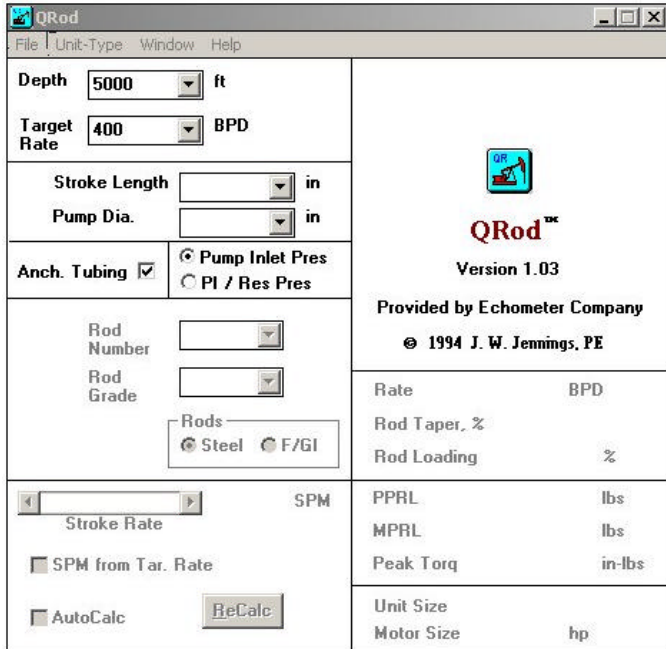

Figure 1
Enter the depth (5000) and target rate (400). You may enter these values by typing the appropriate numbers in the active boxes and using the TAB or ENTER to get to the next box. You may also select the values from the pull down list. Notice that none of the other boxes on the screen are enabled (they are grayed) until you fill out depth and target rate. Any item that is visible, but grayed, may not be selected. After starting the program and entering these initial values, the main screen will appear as shown in Figure 1.